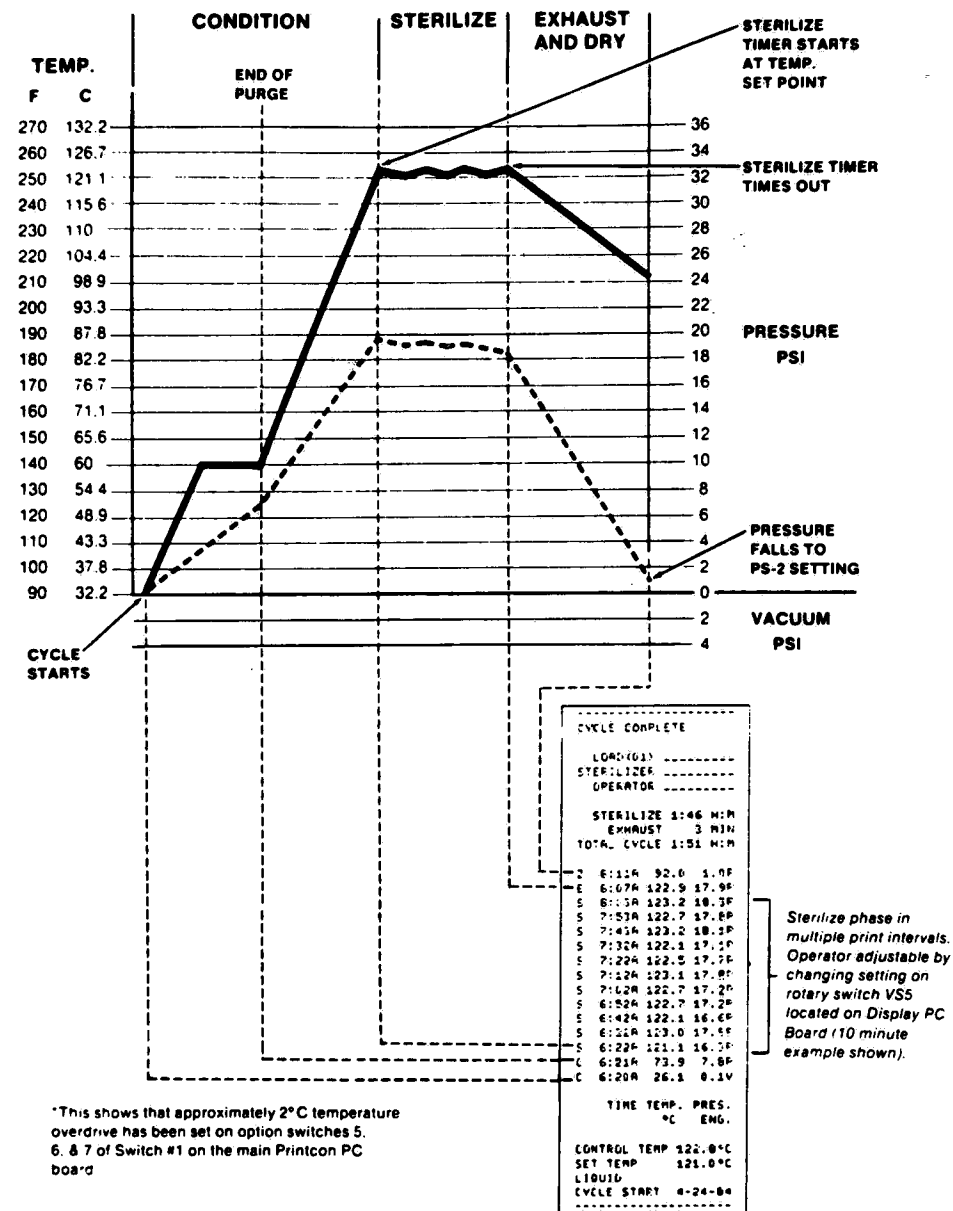

Figure 9-3. PRINTED CYCLE RECORD: Liquid Cycle.
2. Replace Figure 3-20 with Figure 9-3.